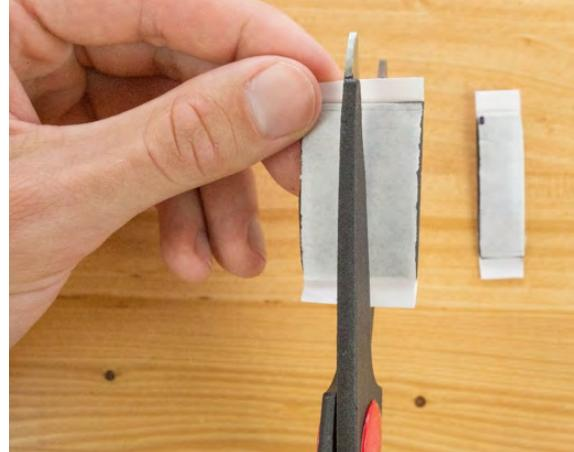

Figure 40
- Cut the poly butyl rubber tape into three equally sized strips and peel off the backing. (Figure 40)